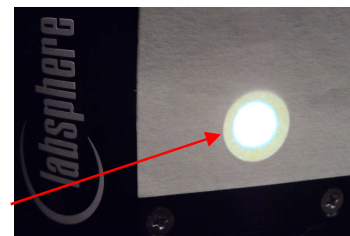

Figure 26: Lamp beam alignment
To align the beam, first place the sphere assembly with its instrument mount on a padded table top. Orient the assembly as shown in the figure below. In this position, the pairs of fasteners that control the collimating Lens position, Aperture position, and Filament centering (fastener callouts 1, 2, and 3 in Figure 26 below) are more easily accessible in pairs.
If it is necessary to replace a missing alignment fastener, use the following table. Please refer to the fastener callouts on Figure 26 to identify each. These fasteners are all of type stainless steel (SS) Socket Head Cap Screws (SHCS). **Do not substitute, use only the fasteners listed or damage may occur.**